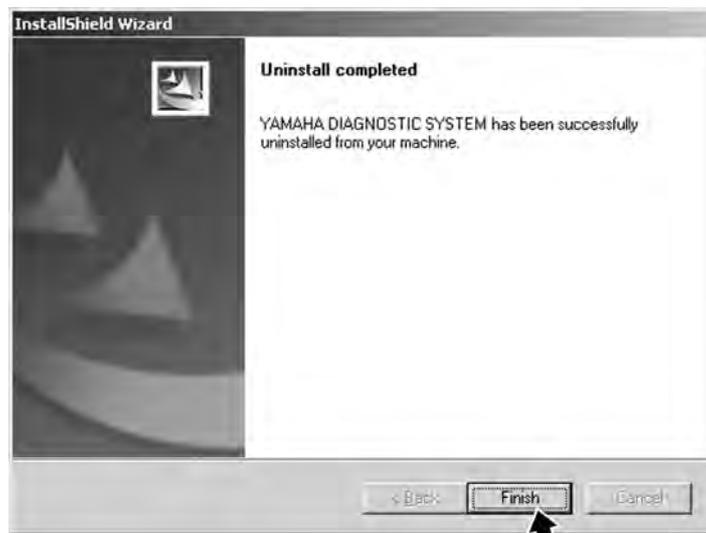

Fig. 138
5. After the uninstall operation is completed, the following dialog box appears. Click the **Finish** button. (Fig. 138)